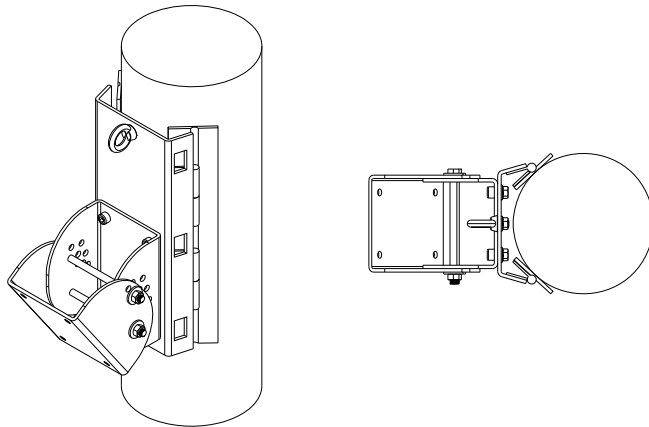
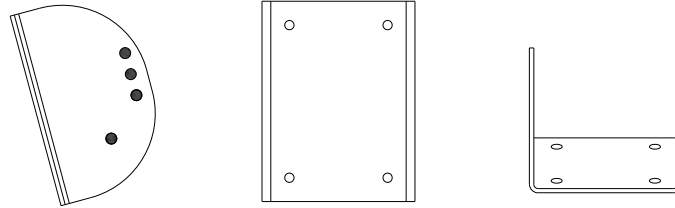
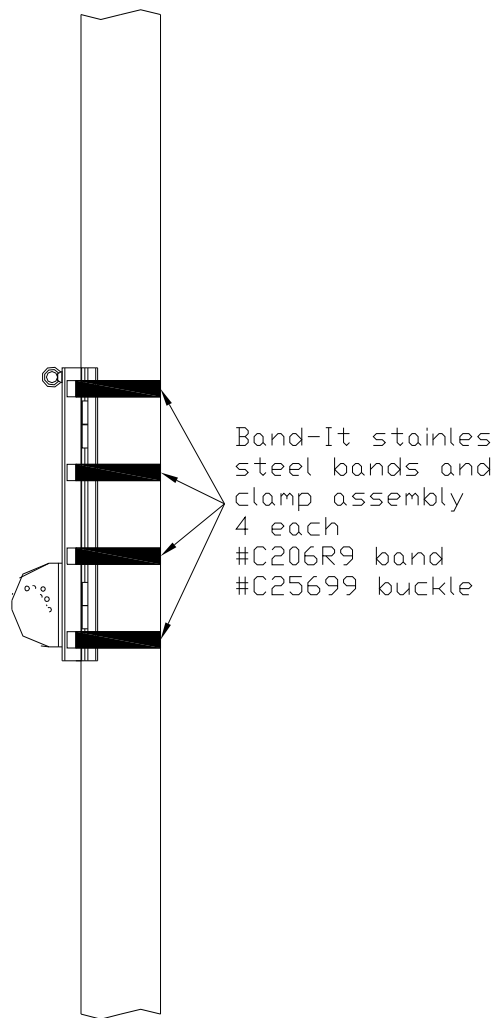

Figure 1.
Figure 2.
Figure 4.
The Pole Mount System EX consists of three parts: the pole bracket, the loudspeaker bracket, and the Safety Link. The pole bracket is shown in Figure 1. The bracket shown in figure 1 is designed for pole diameters of 8 inches (203.2mm) to 20 inches (508mm). The unique “self adjusting” hinge design of the pole mount will adjust to this specified range of pole diameters. Pole diameters smaller than 8 inches must not be used.
Figure 1 represents the isometric and top views of the pole bracket, including the loudspeaker bracket section. The loudspeaker bracket is shown separately in Figure 2.
1. Mount the pole mount section (see figure 1) of the bracket to the pole at the desired height on the pole. The bracket is mounted to the pole using BAND-IT stainless steel bands. **DO NOT SUSTITUTE** bands of other material or other widths! There are four locations on the pole bracket for bands. **ALL FOUR LOCATIONS MUST BE USED.** Figure 4 illustrates the locations for the stainless steel band clamps.
4. The loudspeaker may now be placed on the pole bracket (see figure 2).